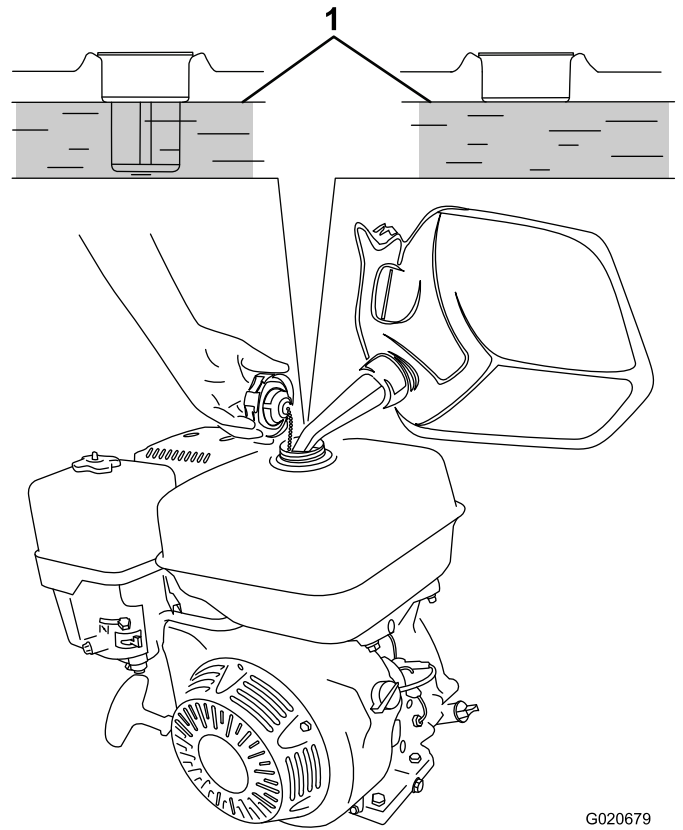

Figure 31
3. Add unleaded gasoline to the fuel tank, until the level is at the bottom of the maximum fuel level, as shown in Figure 31.